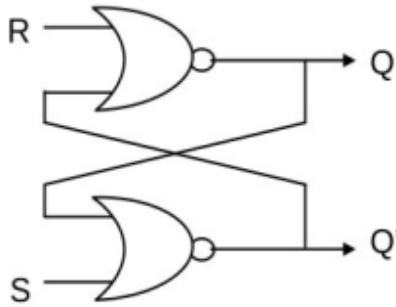

Figure 1: Schematic diagram for one RS latch
- Assemble a NOR latch using two NOR gates as shown in figure 1.